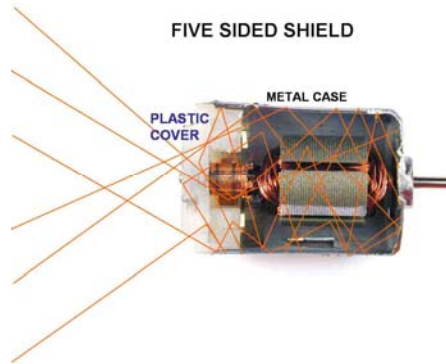

Figure 5. Plastic end caps do not contain radiated noise in the housing. *Picture courtesy of Jastech EMC Consulting, LLC.*
- B. The material make up for the end cap or end cover should also be metal or metalized. Plastic covers by themselves have no shielding property and allow radiated waves to exit the housing (Figure 5). (NOTE: If plastic covers are used, the brushes **MUST** be contained within the dimensions of the metal housing, **NOT** within the dimension of the plastic end cap or cover. No exception can be made, EMC requirements **CANNOT** be met!)